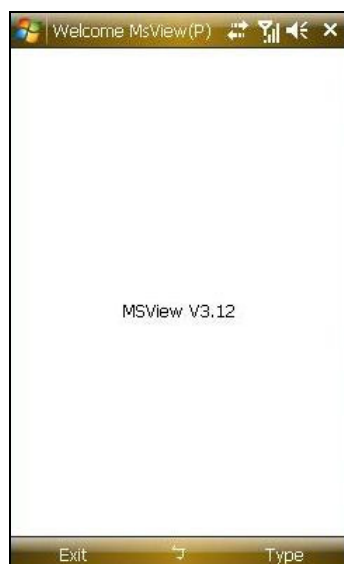

Figure 9-13
3. Select **Type** and then **RPB** (Figure 9-13). The login screen appears. If you want to search the recordings within a specific period of time for playback, select **RPB with time**.